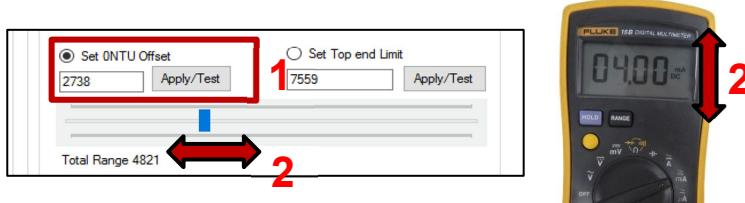

Figure 7.K: Scaling and calibrating 0NTU offset
3. Select the option “Set Top-end Limit” (Figure 7.L: #3).